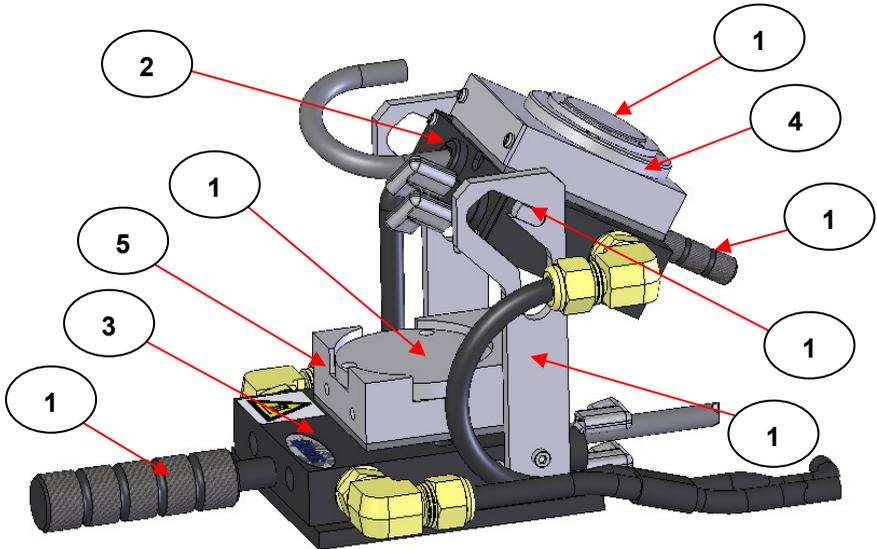

Fig 5. Top Half Assembly Positioned for Access to Protective Films for Their Removal
Take the High Temperature Film Maker Accessory and lift and slide the Top Half Assembly (the top cooling block (2) and heated pressing surface assembly (4)) between the two side supporting brackets (15) all the way to the top by use of the lifting handle (16) on the Top Half Assembly. Then rotate the complete Top Half Assembly upside down and backwards (through 210°) away from the forward projection of the lifting handle (16) when in the normal horizontal pressing position and secure it into the top rest slots (17) of the side supporting brackets (15). (See Fig 5).